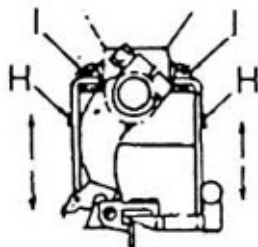

Fig. 15
- b. The needle should be just in touch with the bottom of the right guide slot (KL arched surface). Wrong positioning will cause the problems like needle like breakage, thread breakage, skipping, etc. When adjusting, loosen Screw H and I to move the needle plate up and down to the correct position. After adjustment, tighten screws again. (Fig.15)